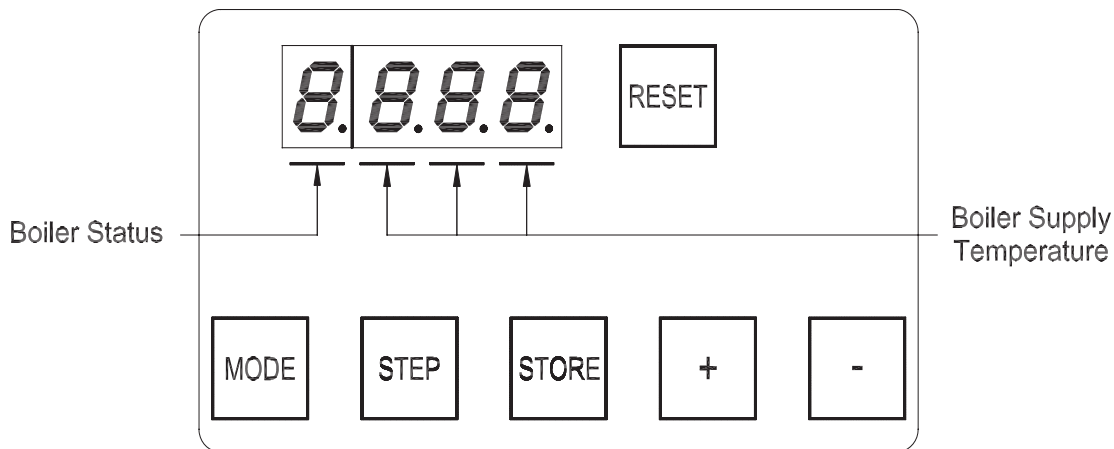

Figure 11.1: Normal Display In Standby Mode
Under normal conditions, the boiler is in standby mode and the display looks like that shown in Figure 11.1. The three digits to the right of the decimal point are the boiler’s supply temperature. The digit to the left of the decimal point is the boiler’s status code. A list of status codes, and their meanings, is shown in Table 11.3. Figure 11.2 is a map of the menu structure for the control panel. Push the mode key to move from one mode to the next. As you change modes, the mode you are entering is shown on the display:
- c) “*Stby*” for Standby Mode. Upon entering standby mode, “Stby” will briefly appear on the display and then the display will show the boiler’s status along with the supply temperature (Figure 11.1).
Boiler not responding to call for heat, Status code on display ="0" (see Figure 11.1)	• Boiler is not seeing call for heat. Check thermostat or zone wiring for loose connection, miswiring, or defective thermostat/zone control.